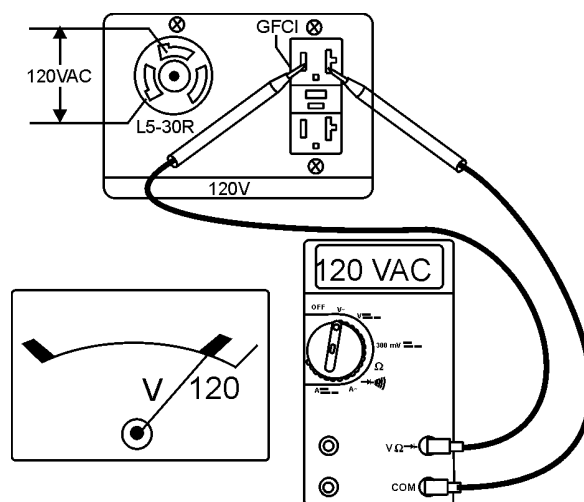

Figure 19. 120 V and GFCI Receptacles
- Read the *voltmeter* on the front panel of the generators (Figure 19) and verify that 120 VAC is present at the 120V twist-lock and GFCI duplex receptacles. For additional verification of voltage, an external voltmeter can be used to measure the output voltage as shown in Figure 19.